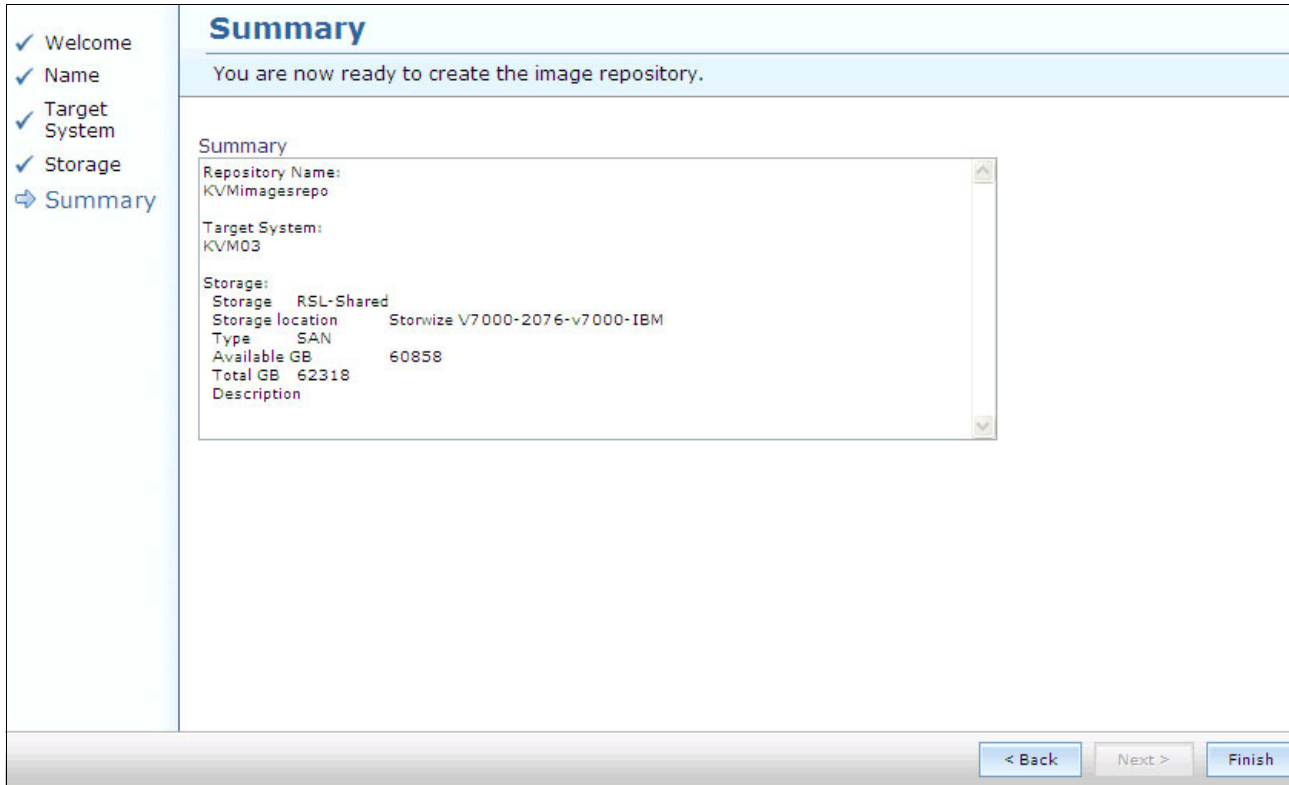

Figure 9-54 Image repository creation summary
7. Review the summary and click **Finish** to complete the image repository creation as shown in Figure 9-54.